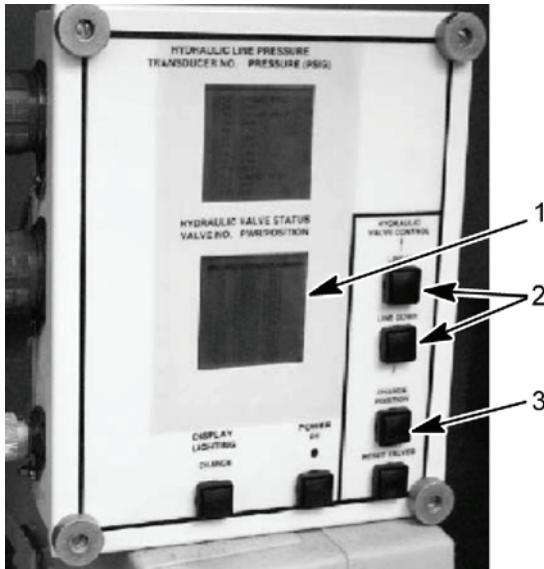

Figure 12. HDC Control Box
- Using LINE UP or LINE DOWN button (Figure 12, item 2) on the HDC control box; select V5 on the HDC display (Figure 12, item 1). Using the CHANGE POSITION button (Figure 12, item 3), close V5 on the HDC display (Figure 12, item 1). Repeat steps for V12, V13 and V19, closing V12 and V13, and opening V19.